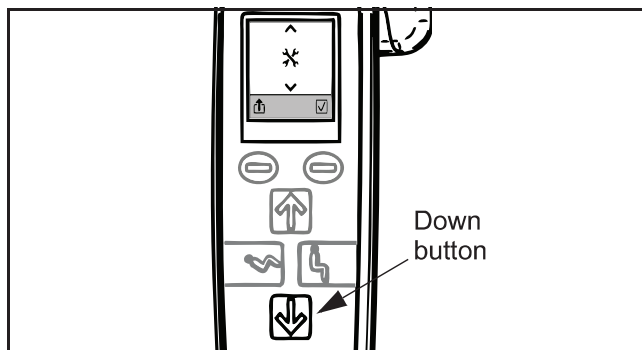

Fig. 62
- 3) Press the “scale” button to zero the scale. Now the display will show a zero weight (see Fig. 62).